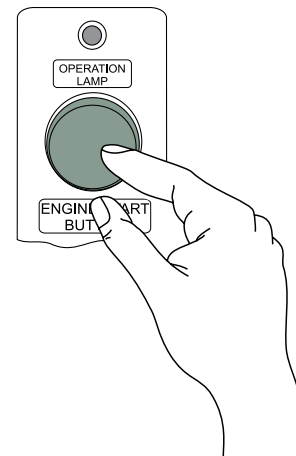

Figure 31. Engine Start Button
- Next, press the **GREEN** engine start button (Figure 31) only once. Continuous pressing of the button is not necessary. The engine will automatically start once the count down sequence has been completed.